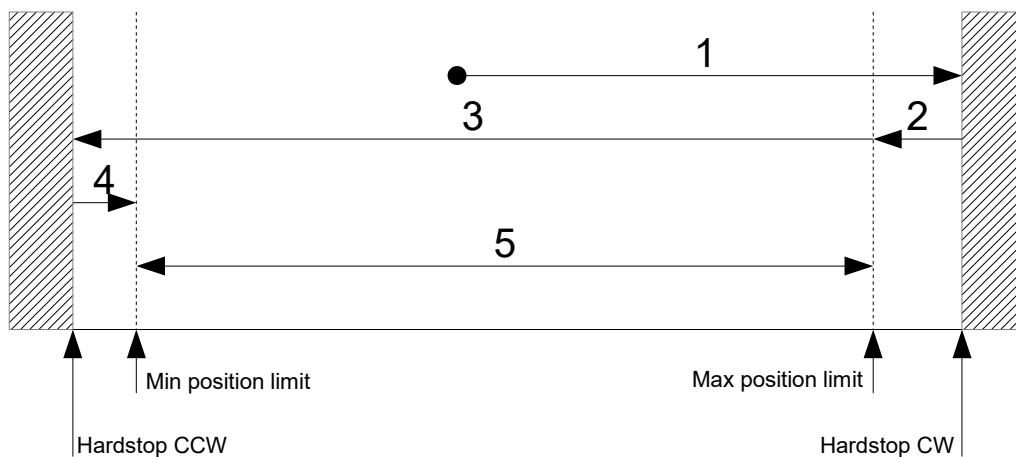

Figure 8: Double ended homing CW
For this homing method, the motor is driving with a constant positive velocity (6099_h:2) clockwise into a hard stop (1) as shown in figure 8. While driving into the hardstop the actual motor current is measured and compared with the current threshold (2025_h:4). If the current threshold is reached, the motor moves back by -PositionOffset_CW (2025_h:2) encoder steps (2). There the actual position (6064_h) and the max position limit (607D_h:2) are set to 0 and the motor drives on into the negative direction with a constant negative velocity (3). If the negative current threshold is reached, the motor moves back by +PositionOffset_CCW (2025_h:3) encoder steps (4). Then the motor is stopped and the min position limit (607D_h:1) is set to the actual position value (6064_h). The velocity is limited to (6099_h:1).